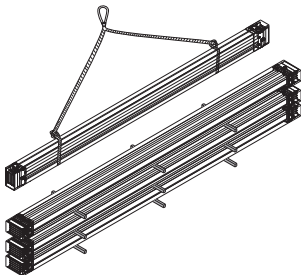

Figure 1
- Hang and support the product only in the lifting configuration as shown in the Figure 1 manufacturer's instructions.